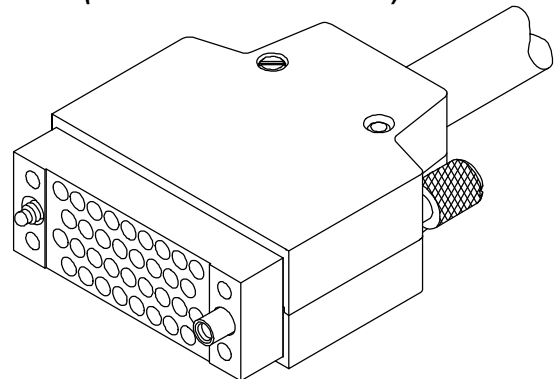

Figure 6
11. Install the two long screws in opposite sides of the shield halves. See Figure 6.